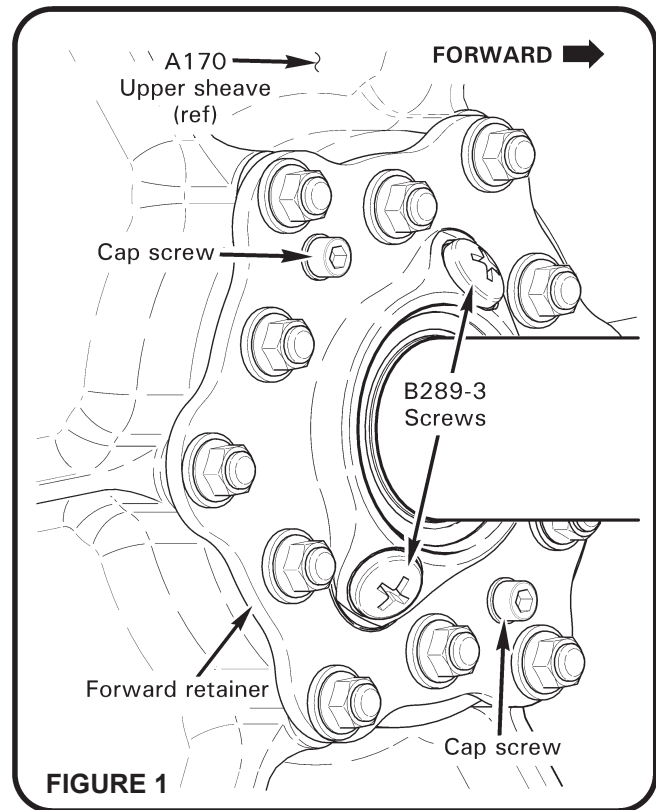

FIGURE 1
1. Refer to Figure 1. If cap screws are not present then submit clutch assembly for upgrade at an R22 Service Center authorized to perform Component Maintenance. Alternately, replace clutch assembly with compliant version.
2. If cap screws are present, but (2) B289-3 screws are not present, then order